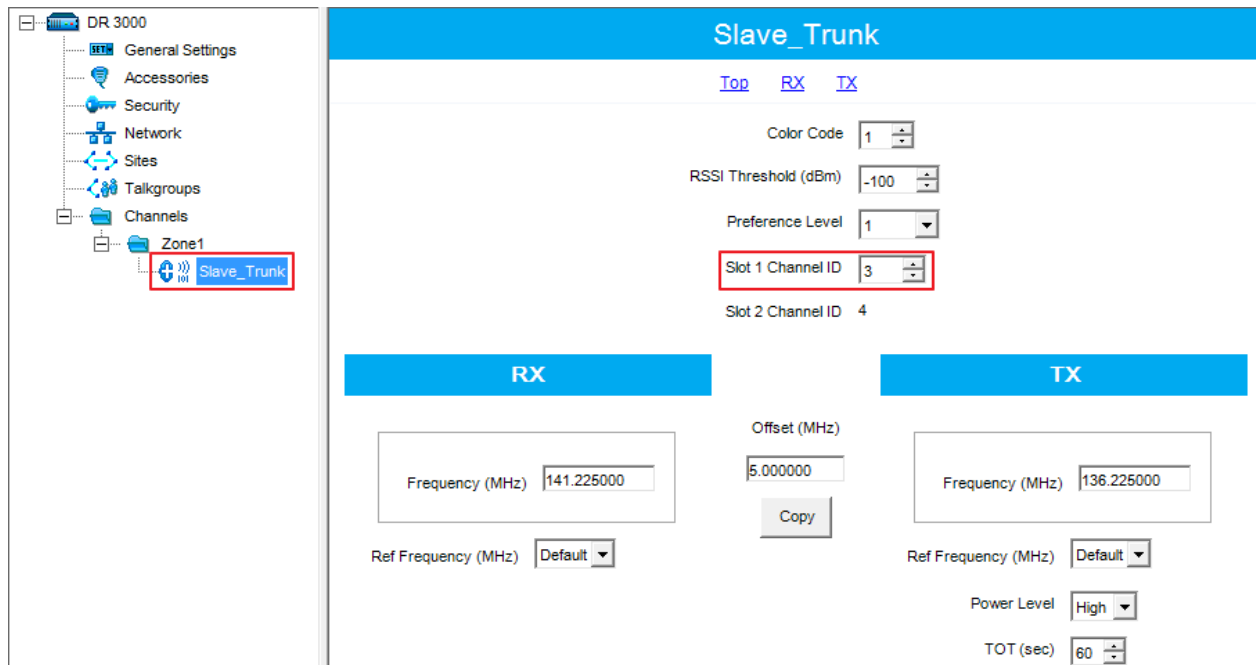

Fig. 7 - Setting Slot 1 Channel ID for Slave repeater
2. Set the **Slot 1 Channel ID** equal to 3 (Fig.7).